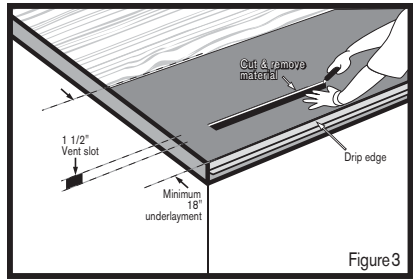

Figure 3
Step 6: Install a minimum 18" wide piece of underlayment starting at the eave edge. This will cover the slot opening and protect the roof deck below the vent. Identify where the slot opening is underneath the underlayment and cut out the 1½" slot using a sharp utility knife. See Figure 3.
Note: The vent slot opening must stop 6" from chimneys, end walls, vertical walls, or other obstructions, and a minimum of 24" from roof valleys. See Figure 3.